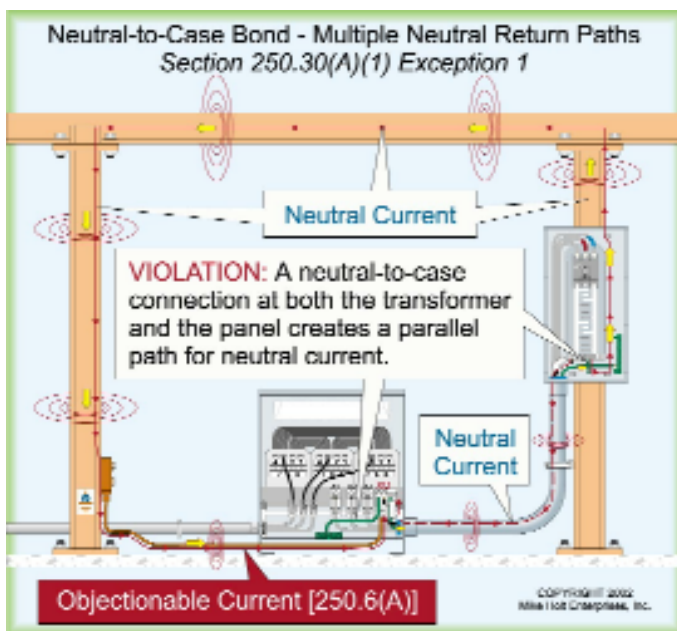

Figure 250-80
**CAUTION:** The neutral-to-case bond for a separately derived system cannot be made at more than one location, because doing so results in a parallel path(s) for neutral current. Multiple neutral current return paths to the grounded (neutral) terminal of the power supply can create dangerous objectionable current flow on grounding and bonding paths in violation of 250.6 and 250.142(A). Figure 250-80